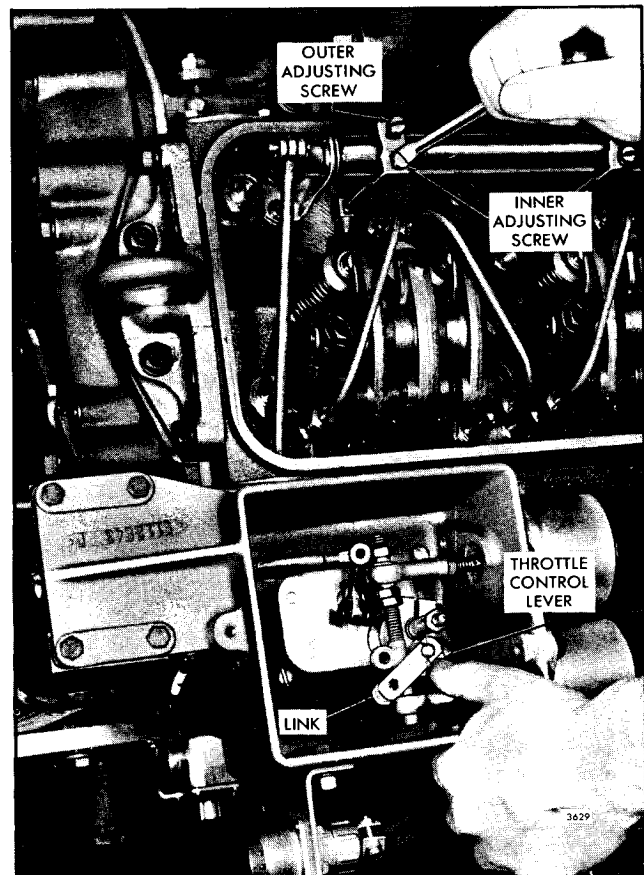

Fig. 3 - Positioning No. 1 Injector Rack Control Lever
5. Hold the throttle control lever in the FULL-FUEL position and turn the inner adjusting screw down on the No. 1 injector rack control lever (see Fig. 3) until a slight movement of the injector control tube lever is observed or a step-up in effort is noted. This will place the No. 1 injector rack in the full-fuel position. Turn down the outer adjusting screw until it bottoms lightly on the injector control tube. Then, alternately tighten both the inner and outer adjusting screws until they are tight.